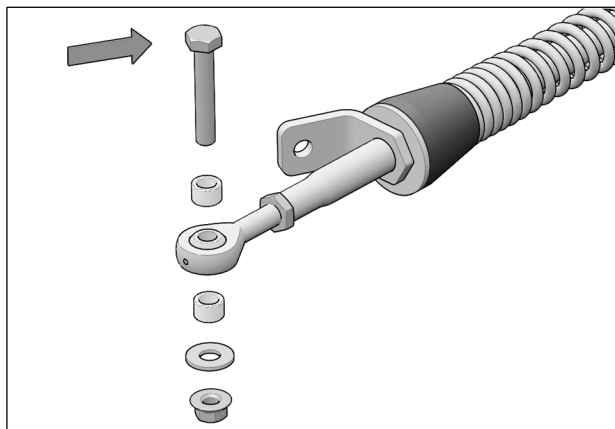

Fig. 12
3. Remove bolt, washer and bushings from front stabilizing rod end as shown in Fig. 12